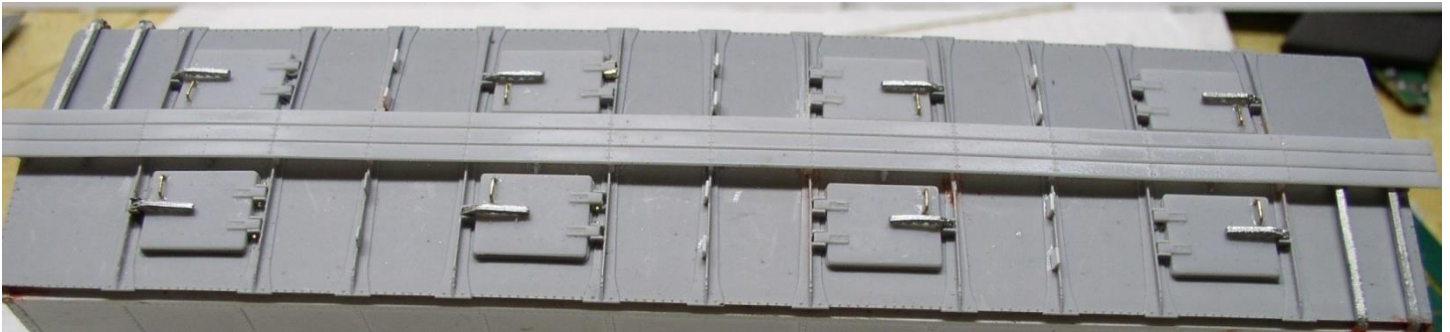

Figure OH10
11. Detail the roof hatches as in Step 1 in this section. See Figure OH10.